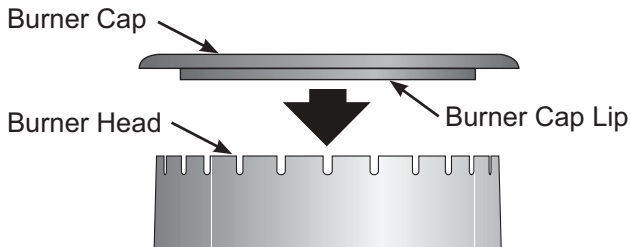

Figure 20: Burner Cap
1. Remove the burner cap from the burner head (see Figure 20). Clean the cap with hot soapy water and dry thoroughly.